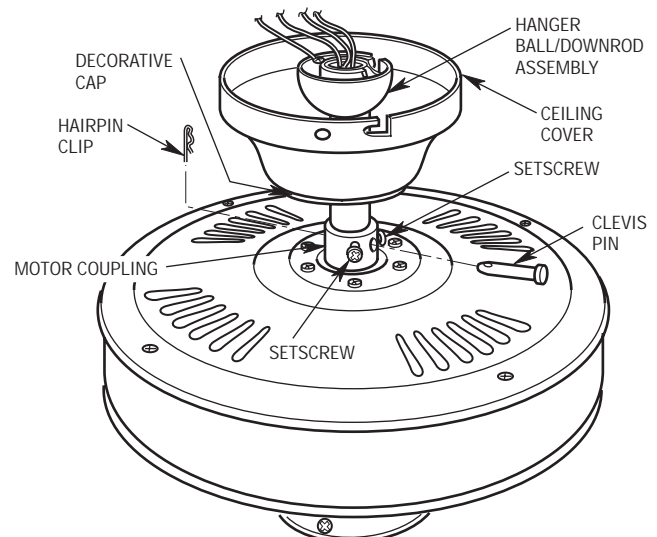
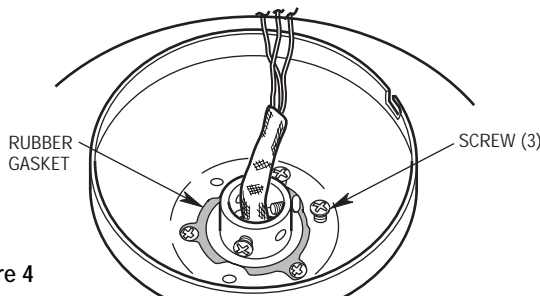

Figure 2
Figure 4
3. Loosen the two setscrews in the motor coupling. Align the clevis pin holes in the downrod with the holes in the motor coupling. Install the clevis pin and secure with the hairpin clip (Figure 2). The clevis pin must go through the holes in the motor coupling and the holes in the downrod. Be sure to push the straight leg of the hairpin clip through the hole near the end of the clevis pin until the curved portion of the hairpin clip snaps around the clevis pin. The hairpin clip must be properly installed to prevent the clevis pin from working loose. Pull on the hanger ball to make sure the clevis pin is properly installed.
4. While pulling up on the hanger ball, securely tighten the two setscrews in the motor coupling (Figure 2).
- 3. Gently pry the decorative cap (Figure 2) from the ceiling cover. Align the holes in the ceiling cover with the holes in the motor housing and secure using the three screws (Figure 4).